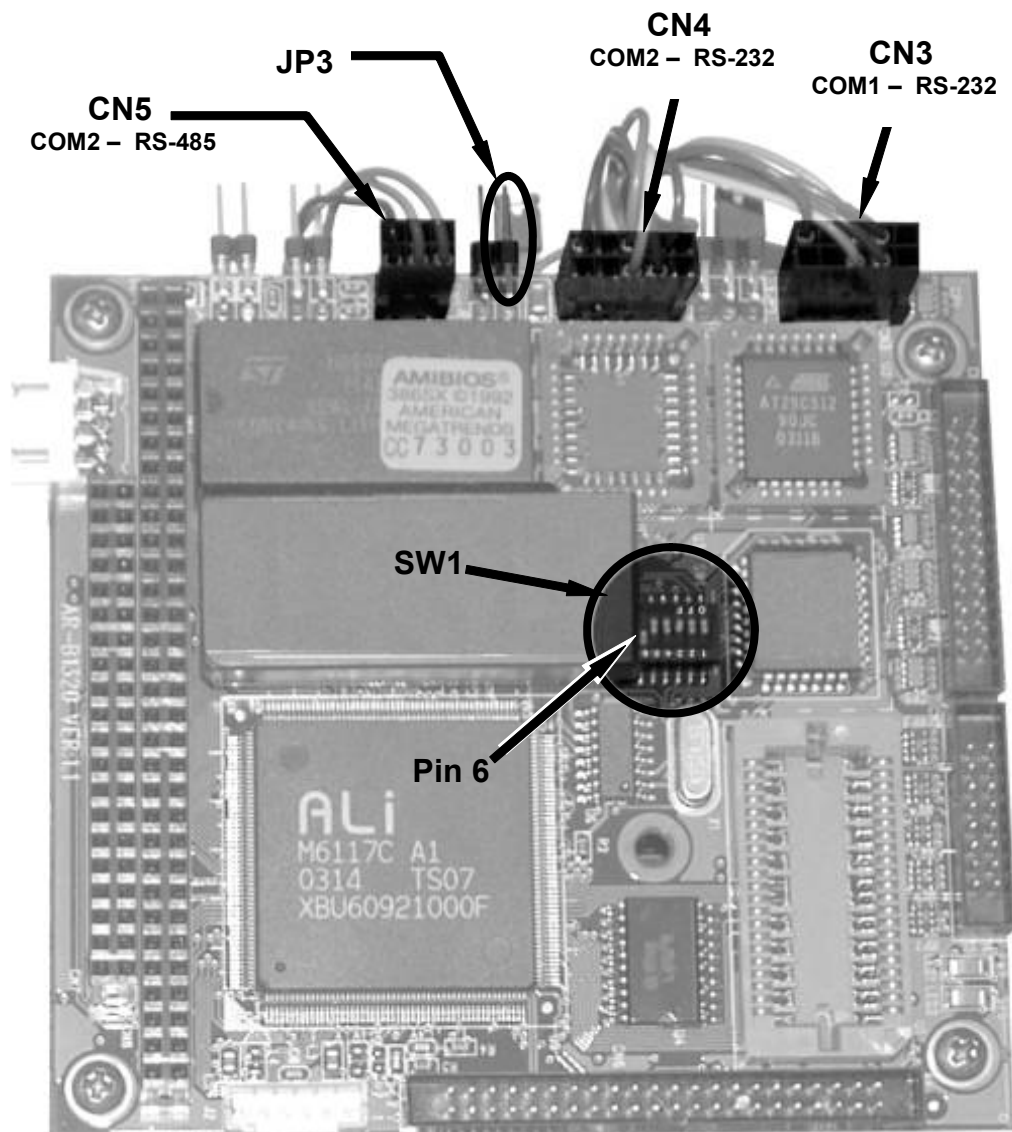

Figure 6-8: CPU card Locations of RS-232/485 Switches, Connectors and Jumpers
- To reconfigure COM2 as an RS-485 port, set switch 6 of SW1 to the ON position (see Figure 6-8).
- The RS-485 port can be configured with or without a 150 Ω termination resistor. To include the resistor, install jumper at position JP3 on the CPU board (see Figure 6-8). To configure COM2 as an un-terminated RS-485 port leave JP3 open.